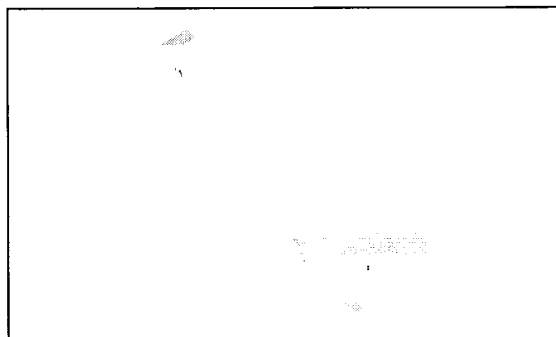

figure 5
5. Cut the bead size for preferred amount as shown in **figure 5**.